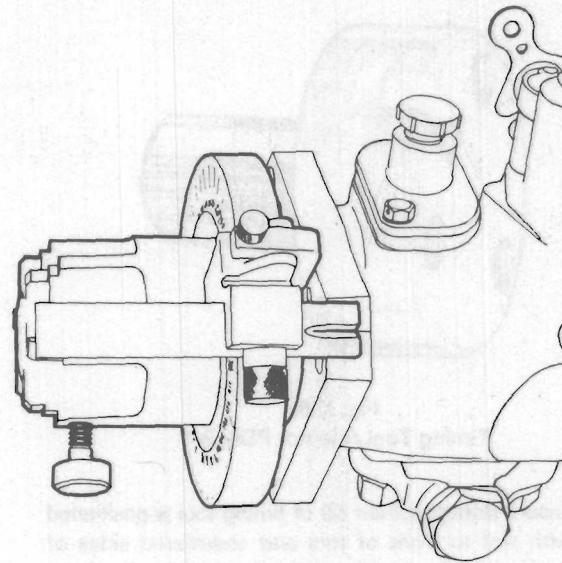

Fig. K.10.
4. Position timing tool on pump drive shaft with master splines engaged and tool locating on spigot (see Fig. K.10). With dowel drive pumps, locate splined shaft in hub, slide tool towards pump to rest on end of hub and lock shaft in tool (see Fig. K.11).